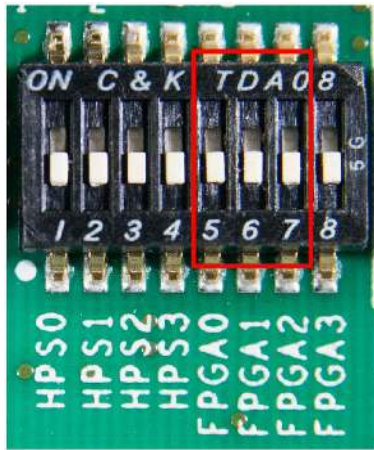

Figure 4-8 SWITCH on A10SoC
9. Set the SW2.5 dip switch to down as shown in **Figure 4-8** and observe LED2. If the LED is lit, it means the 3G SDI Loopback test passed. Then, set SW2.5 dip switch to up position, and observe the LED3 to check whether 3G SDI loopback test passed in another direction.